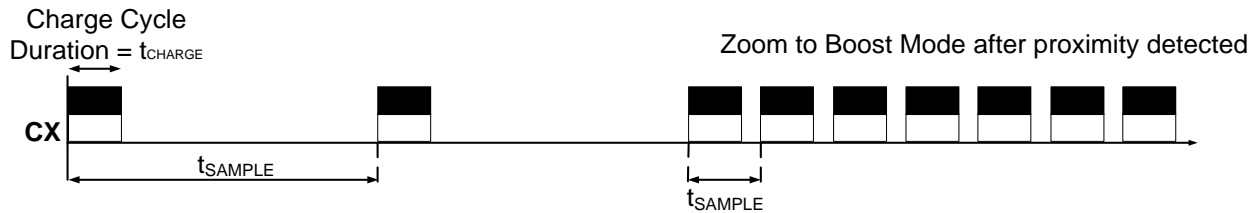

Figure 8.2 LP Modes: Charge cycles
The timings for all the Power Modes are provided in the table below. While in any power mode the device will zoom to BP whenever the count values (CS) indicate a possible proximity or touch event (see Figure 8.2). The device will remain in BP for t_{ZOOM} seconds and then return to the selected power mode. The Zoom function allows the fastest possible response by sampling at the BP frequency.